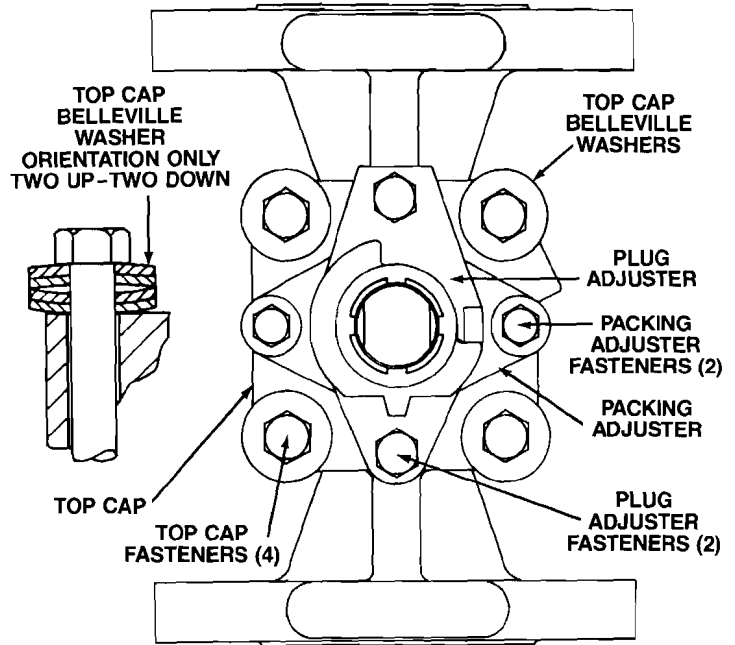

FIGURE VB-9
17. The top works is then placed onto the valve body and oriented as shown in Figure VB-9. The plug is then pressed into the sleeve with the aid of an arbor press. The press must provide sufficient force to depress the plug, allowing the gasket surface of the top cap to bottom against the gasket counterbore. The valve must remain in the arbor press for steps 17 thru 20.
18. The top cap fasteners with four (4) Belleville washers each (Figure VB-9 for cap Belleville washer orientation) should be installed at this time. Do not tighten the top cap fasteners more than finger tight.